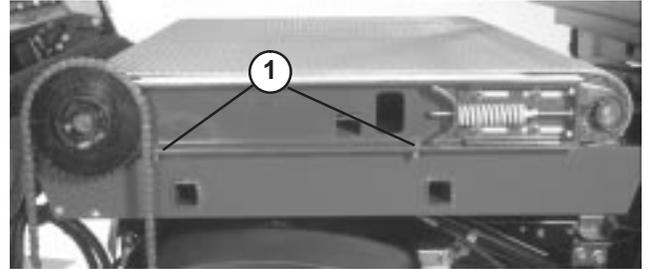

Figure 31
- Loosen (2) capscrews, washers and nut, on right side of machine, securing slider bed to frame (Fig. 31). Make sure fasteners are loose enough to allow slider bed to be tipped.